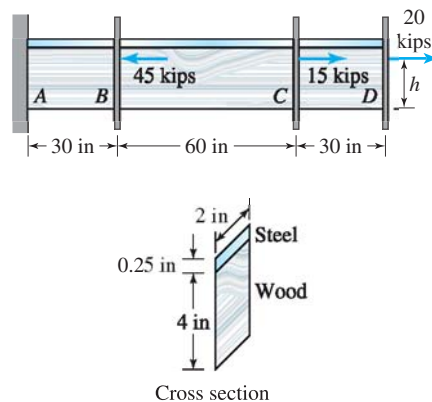

Figure P4.3
4.3 A wooden rod ($E_W = 2000$ ksi) and steel strip ($E_S = 30,000$ ksi) are fastened securely to each other and to the rigid plates as shown in Figure P4.3. Determine (a) the location h of the line along which the external forces must act to produce no bending. (b) the maximum axial stress in steel and wood.